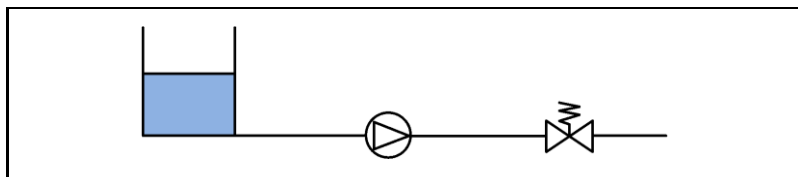

Fig. 20: Volatile media
For precise metering of liquids with a low vapour pressure, such as solvents, the system should be set up as shown in Fig. 20
1. Set up the system as shown in Fig. 20